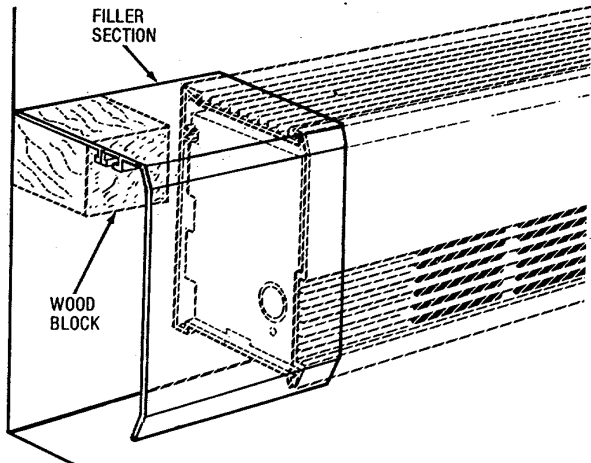

Figure 3
3. If the filler section is to be mounted between a heater and a wall, a block of wood to support one end of the filler should be attached to the wall level with the top the heater. See Figure 3.